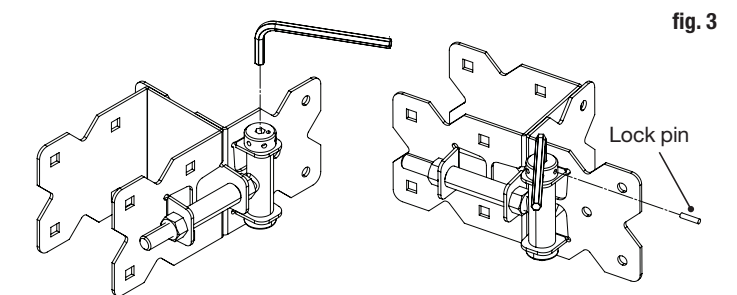

fig. 3
- To remove tension, insert the Allen wrench into the hole on the top of the hinged bracket. Wind it counter-clockwise to bring the pre-tension hole back and remove the lock pin (fig 3). The gate will no longer be self-closing.
- To increase the tension, insert the Allen wrench into the hole on the top of the hinged bracket. Wind it counter-clockwise until you reach desired tension. Insert the lock pin into the small tension hole to set it and test the gate to ensure you like the setting (fig 3). Adjust as necessary.